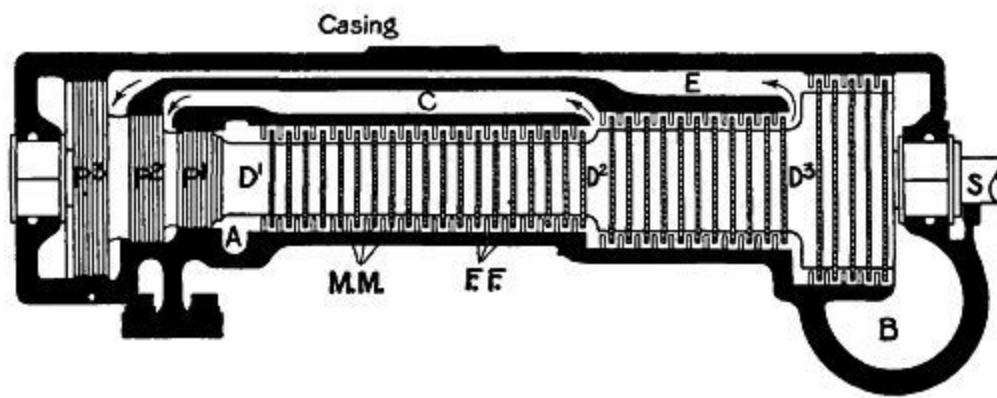

FIG. 37.—Section of a Parsons turbine.
The essential parts of a Parsons turbine are:—(1) The shaft, on which is mounted (2) the drum; (3) the cylindrical casing inside which the drum revolves; (4) the vanes on the drum and casing; (5) the balance pistons. Fig. 37 shows a diagrammatic turbine in section. The drum, it will be noticed, increases its diameter in three stages, D^1 , D^2 , D^3 , towards the right. From end to end it is studded with little vanes, M M, set in parallel rings small distances apart. Each vane has a curved section (see Fig. 38), the hollow side facing towards the left. The vanes stick out from the drum like short spokes, and their outer ends almost touch the casing. To the latter are attached equally-spaced rings of fixed vanes, F F, pointing inwards towards the drum, and occupying the intervals between the rings of moving vanes. Their concave sides also face towards the left, but, as seen in Fig. 38, their line of curve lies the reverse way to that of M M. Steam enters the casing at A, and at once rushes through the vanes towards the outlet at B. It meets the